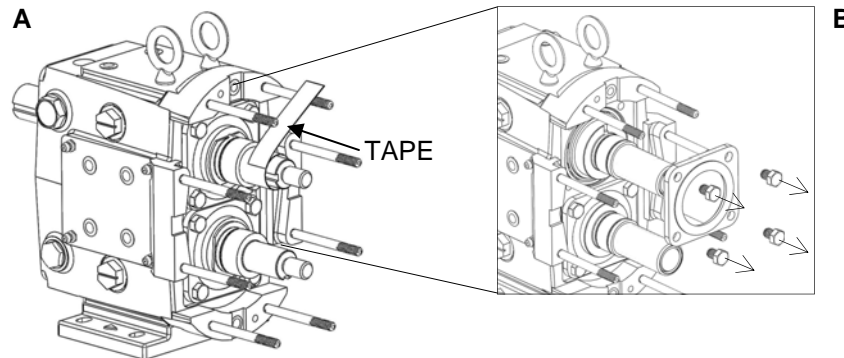

Figure 47: Tape Shafts and Remove Bearing Retainers
3) To prevent damage to the shafts, wrap the keyway and rotor nut threads with tape (Figure 47, A). Any damage to the shaft or threads may require the shaft be replaced. Remove the cap screws holding the bearing retainers in place and slide both bearing retainers off the shaft (Figure 47, B). If they are stuck, use a flat head screw driver as a wedge to pry them from the gear case or leave them in place and when the shafts are removed they will press off with the shafts. Using a straight edge, remove the liquid gasket used to seal the bearing retainer to the gear case.